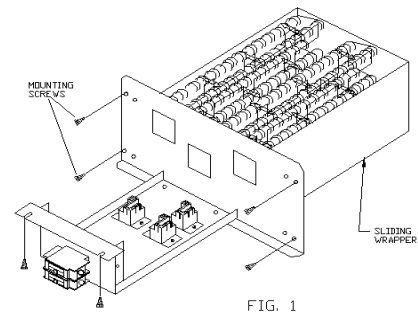

FIG. 1
7. Secure the heater to the air handler using six screws. Use 4 screws on the heater compartment and 2 on the front heater tab flange. Reference Figure 1.